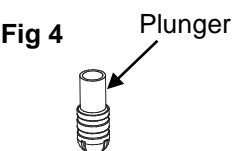

Fig 4
7. Examine plunger for damage and replace if necessary. Fig 4